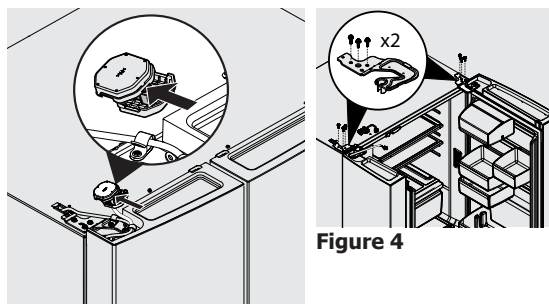

Figure 2
2. Disconnect electrical harness running from door to hinge cover. See Figure 2.
3. Disconnect the switch connector and detach the wires from the guide. See Figure 2.